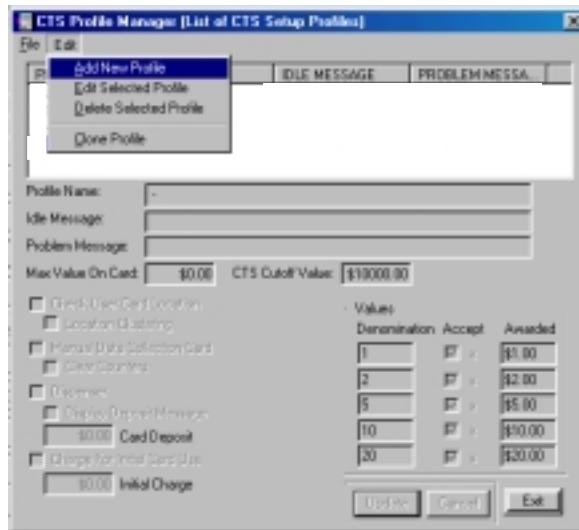

Figure 3.10 Adding a New Profile
3. The CTS Profile Manager will open. Select **Add New Profile** from the Edit drop-down menu (Figure 3.10).